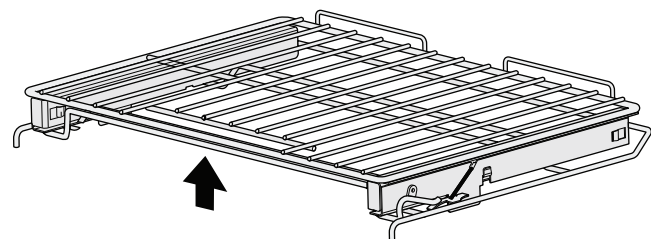

Figure 5: Extendable glide rack with release lever in unlocked position
2. While holding up the release lever (Figure 5), pull the glide rack out of the oven until the stop position is reached, use two hands if necessary.